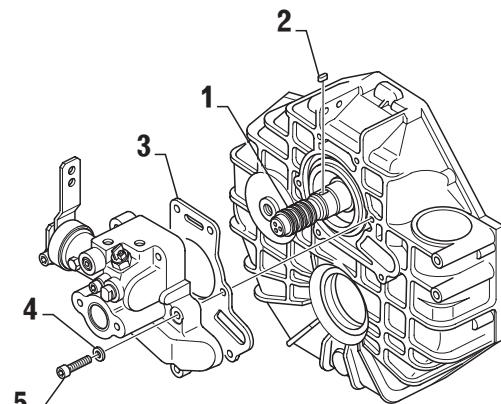

FIG. 6-1
Piston rings (item 1, Fig. 6-1) have to be replaced, if thickness is less than 2.39 mm (0.094in).
- Insert key (item 2, Fig. 6-1) into groove of shaft.
- Place new seal (item 3, Fig. 6-1) onto control block.
- Insert lock washers (item 4, Fig. 6-1) on socket head bolts (item 5, Fig. 6-1) and provide screw threads each with a drop of Loctite 243.